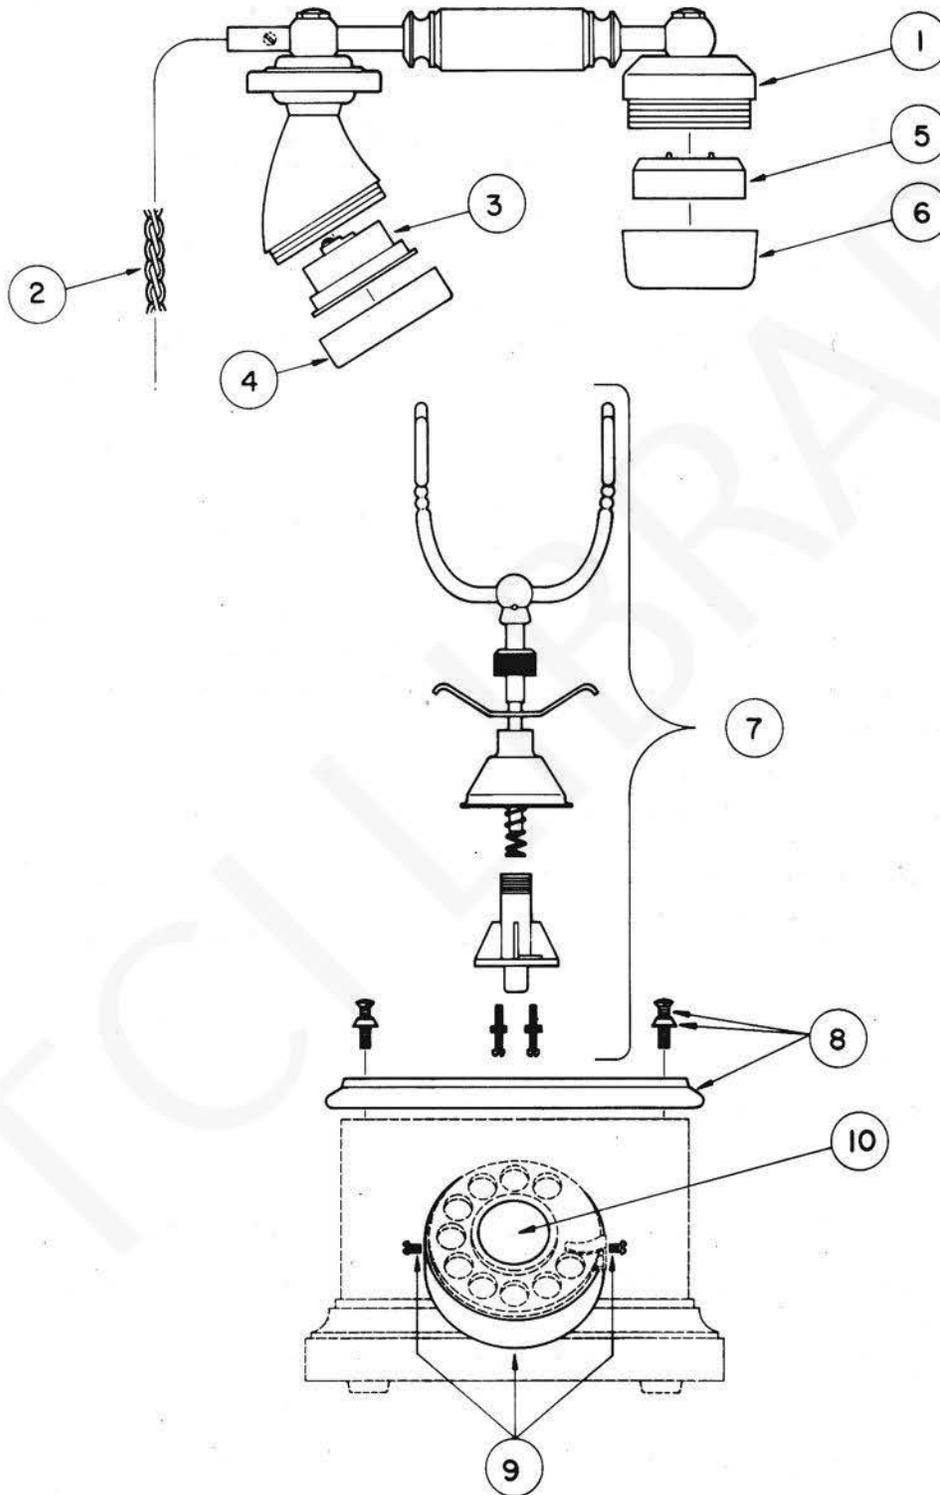

Fig. 10 — Exploded View of MD9152 Telephone Set (Moderne)
**IDENTIFICATION OF PARTS (Fig. 10)**